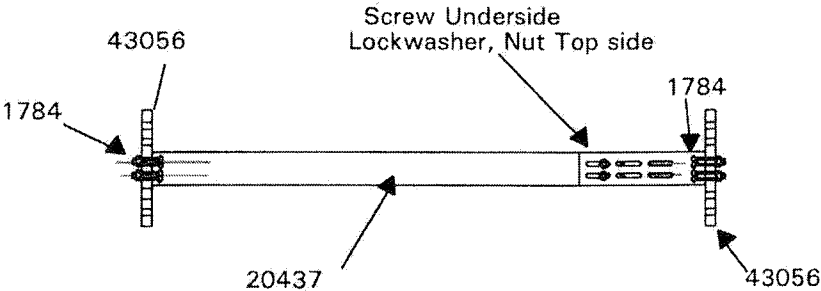

Figure 6-5 Assembly of Rack Mounts
5. Install both Rack Mounts to your Rack Unit using eight 10-32 X 0.5 PHP screws. Then slide the Model 73 into the Rack Mounts and secure the Model 73 to the Rack Unit with four 10-32 X 0.75 PHP screws. Refer to Figure 6-5.